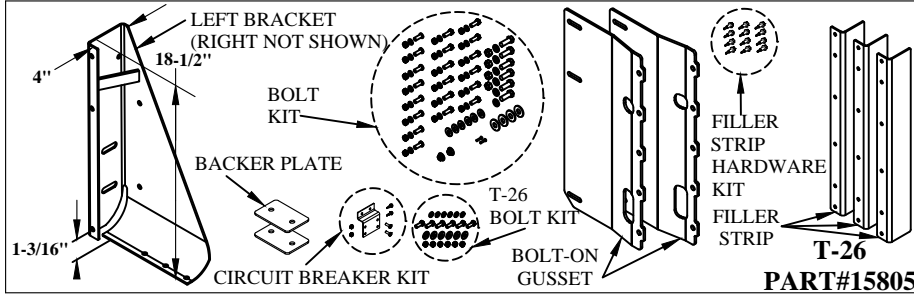

Figure 1: T-26 Part Identification.
2. Verify mounting bracket kit (Figure 1 and Table 1).